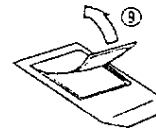

Fig. 9-7
- d. After the specified developing time has elapsed, swiftly peel the print off the negative film (Fig. 9-7).